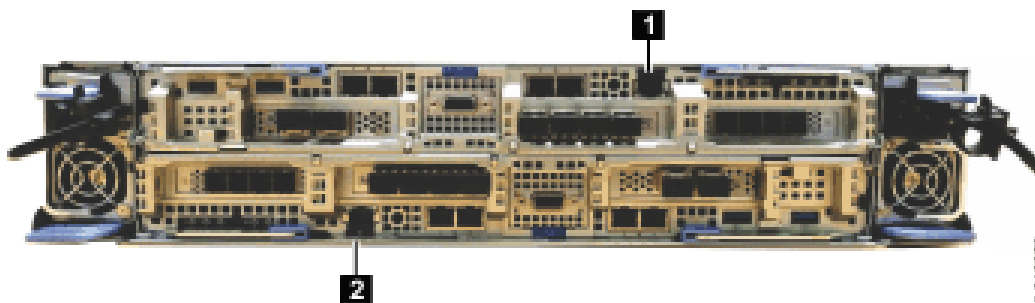

Figure 61. Technician port
4. Disconnect the personal computer from all networks. Connect an Ethernet cable between the port of the personal computer that is configured in step “2” on page 101 and the technician port in the left canister (1) that is shown in Figure 61 on page 101.